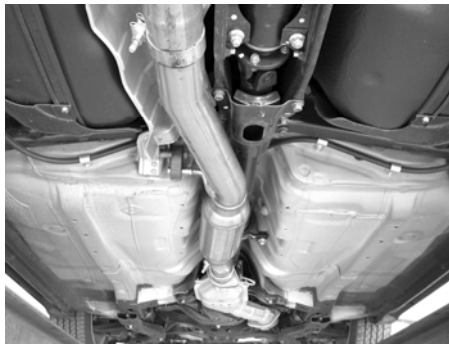

Figure 4
2. Place a clamp over the expanded end of the intermediate pipe assembly and set it into position as shown in figure 4 installing the hanger into the rubber bracket. DO NOT tighten the clamp.